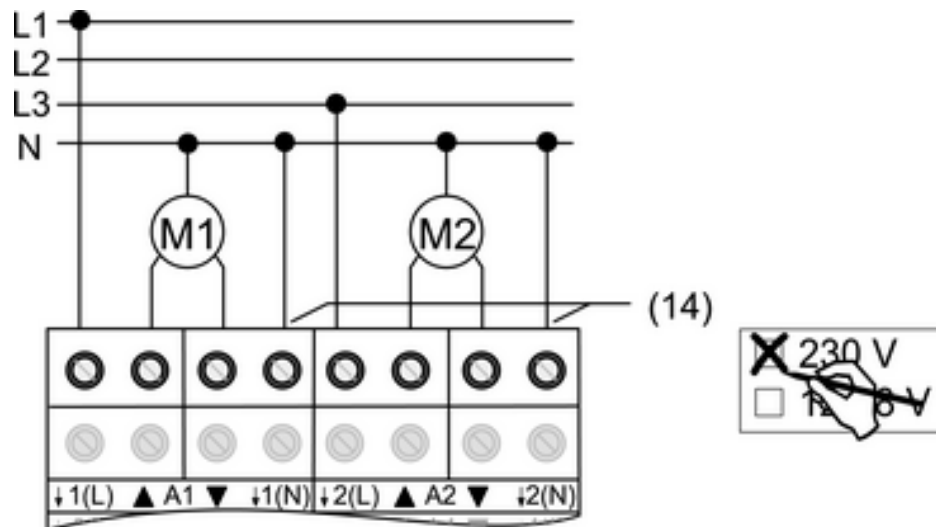

Figure 7
- Connecting the motor (figure 7).
- Connect the N conductor of the corresponding motor to the N conductor terminals (14) (figure 7). Note RCCB wiring.
- Mark **230 V** use on label (figure 7).